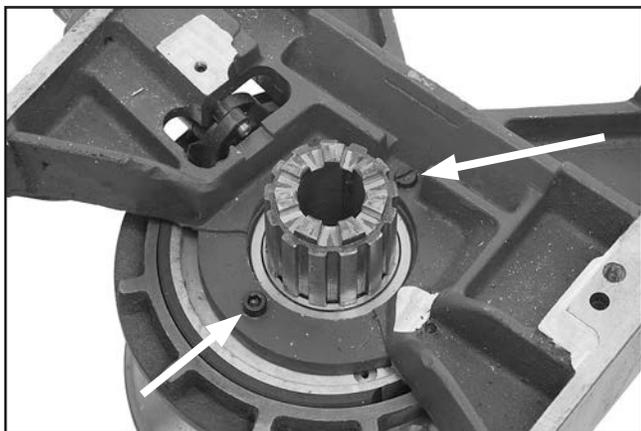

Figure 86. Pulley assembly screws.
2. Remove the pulley assembly by removing the screws shown in **Figure 86**.